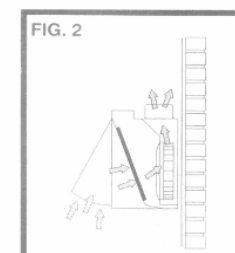

FIG. 2
2. The Re-circulation Mode (Fig.2)